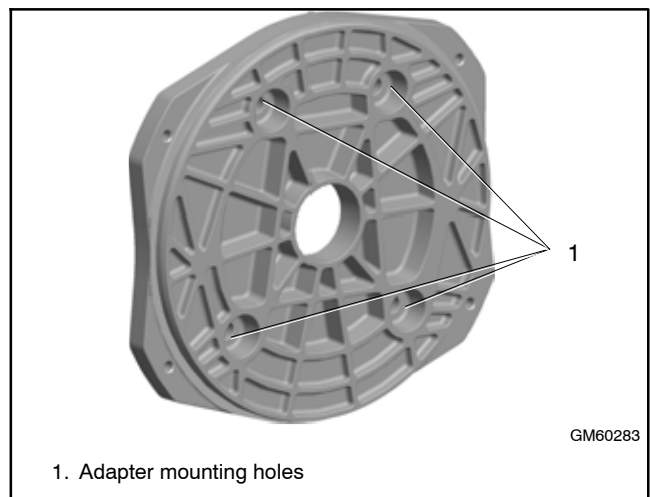

Figure 7-26 Generator Adapter (14RESA/RESAL)
29. 14RESA/RESAL only: Remove the four generator adapter mounting bolts to remove the generator adapter, if necessary. See Figure 7-26.
- a. Attach the generator adapter to the engine using four 7/16-14 x 1.0 in. hex cap bolts and washers. See Figure 7-26.